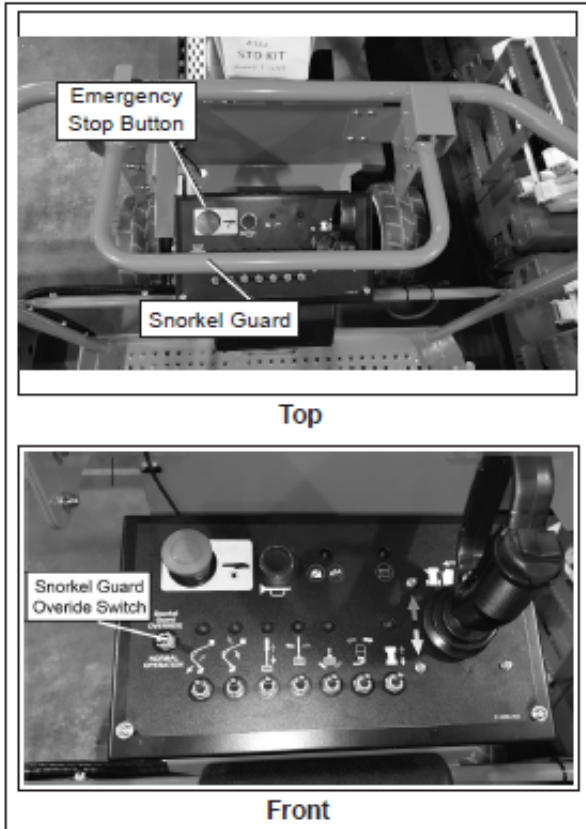

Figure 8.18 – Upper Controls
3. At the upper controls, pull the emergency stop button outward (refer to Figure 8.18).